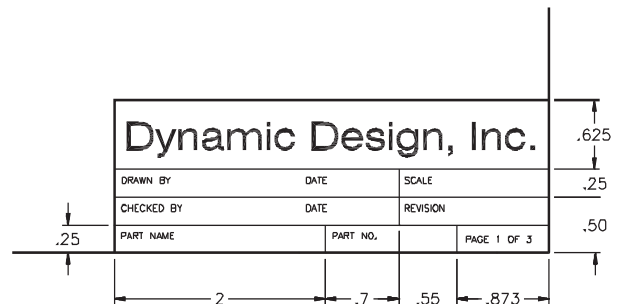

Fig. 20-8
3. Create the title block shown in Fig. 20-8 using the following information: